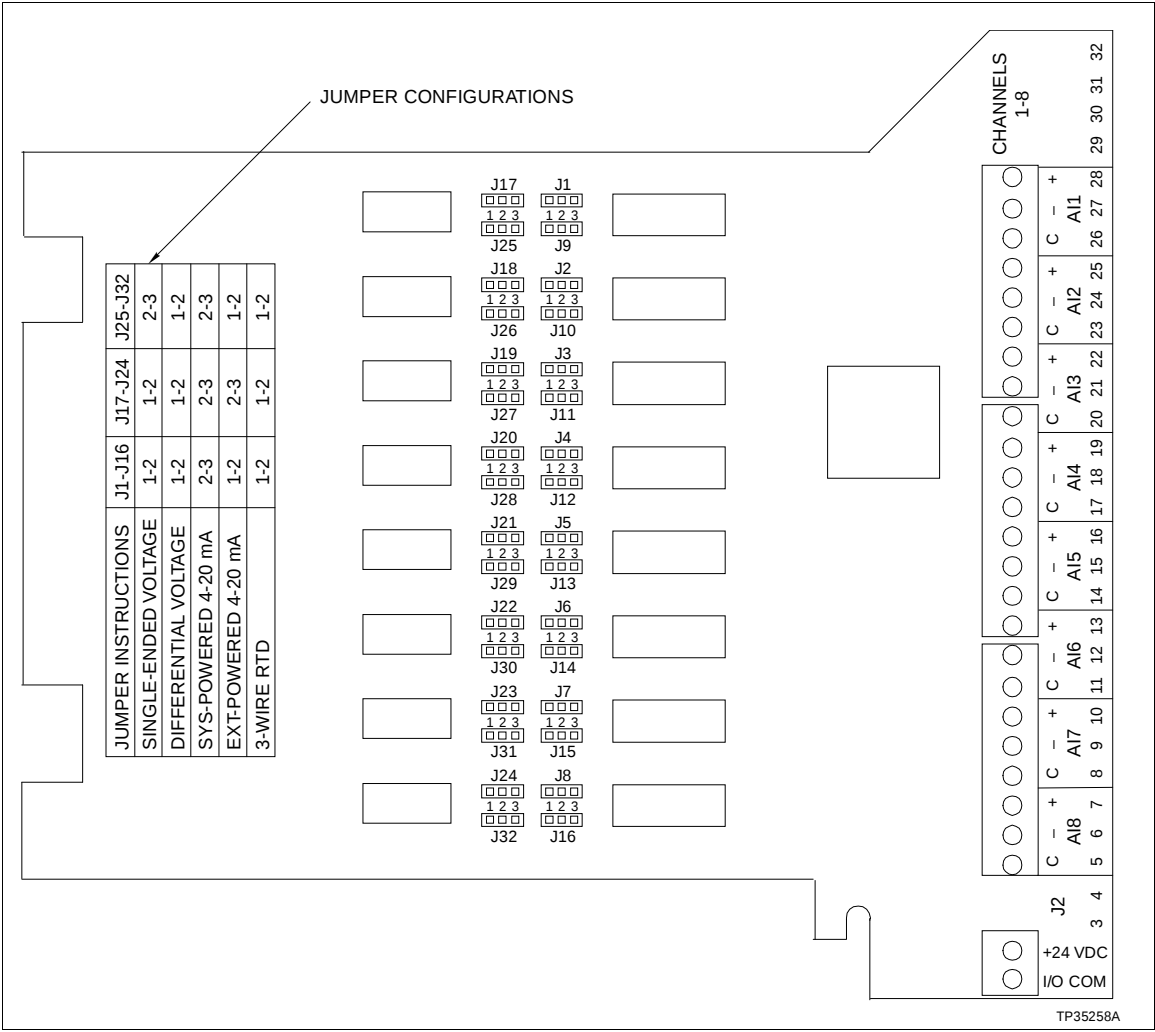
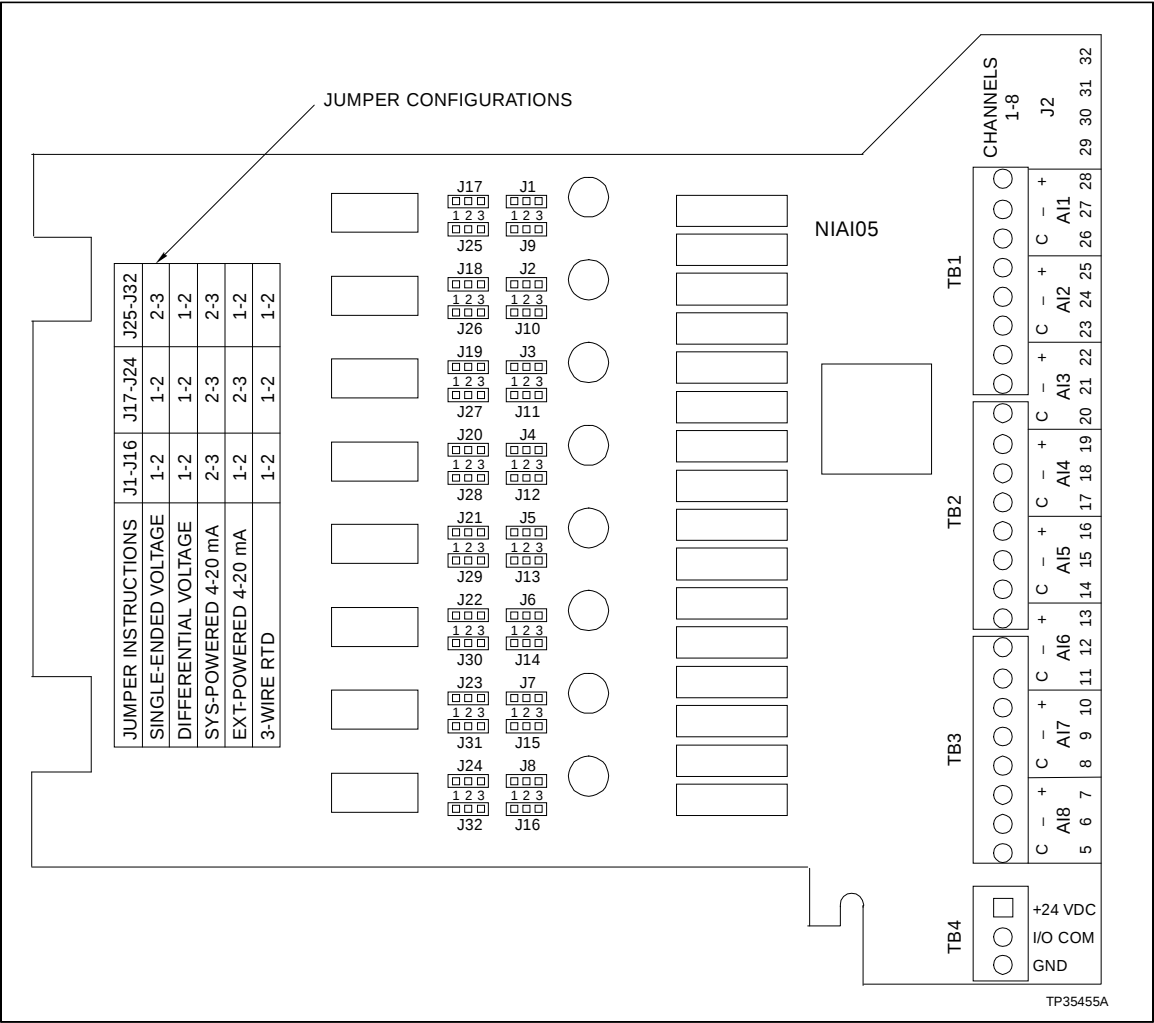

Figure A-1. Jumper Locations for Revision A Hardware NIAI05
Figure A-2. Jumper Locations for Revision B Hardware NIAI05
- Figure A-1 shows the jumper locations on a module with revision A hardware. Check jumpers before installing the NIAI05. Figure A-2 shows the jumper locations on a module with revision B hardware. Check jumpers before installing the NIAI05.